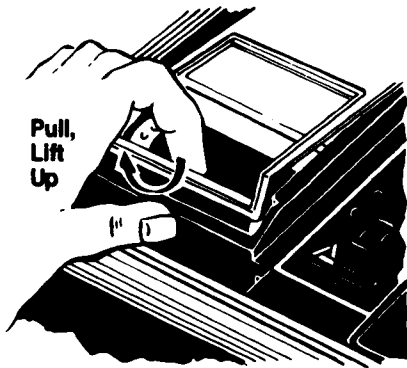

Fig. 3
- Remove top cover—pull bottom ledge of frame toward you and lift. See fig. 3 or 4.
2. Remove top cover. See fig. 3.
2. Remove top cover. See fig. 3 or 4. Adjust zero setting with power off and recorder not connected to any voltage or current source. (See Zero Adjusting).